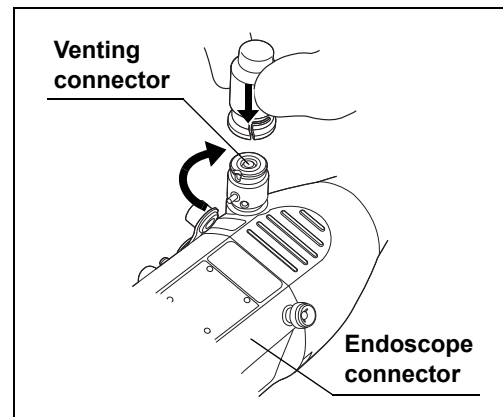

Figure 5.7
- 4** Turn the endoscope connector of the ALT-Y0003 leak test air tube clockwise until it stops, pushing it to the venting connector as shown in Figure 5.7.